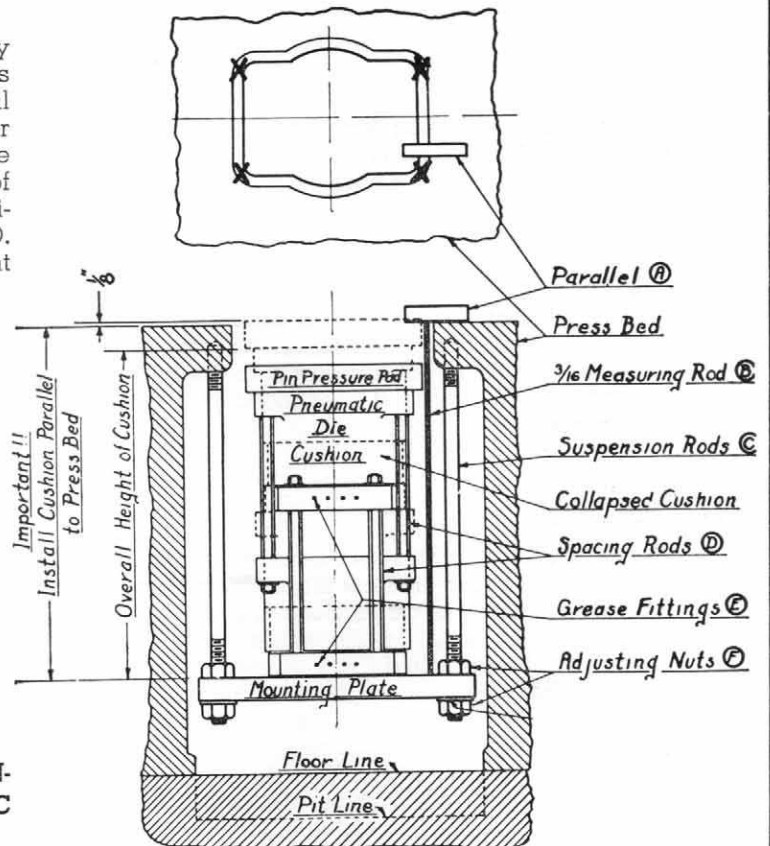

Fig. No. 45
(1) Remove bolster plate and check both surfaces carefully to make sure they are flat and parallel. **THIS IS IMPORTANT!** If surfaces are bowed or not parallel, have them machined to assure an accurate surface for the pin pressure pad of the cushion to stop against.
(2) Screw the ends of the mounting rods, "C", with the short length of thread into the drilled and tapped holes in the press bed which have been provided for mounting the die cushion. (See Fig. No. 45 & P. 2.) Make sure these rods are pulled up as far as they will go into the tapped holes. If the cushion is to be suspended from mounting bosses that are not tapped, the suspension rods are provided with nuts on both top and bottom of the bosses. Make sure the nuts are secure before proceeding with the installation.
(3) With the use of skids or timbers, slide the cushion unit into the approximate location relative to the press bed opening. (Note: If the distance between the mounting rods at the front of the press is not enough to allow the cushion to pass between them, it is advisable to leave them out until after the cushion has been placed under the press bed opening.
(4) Run on the upper adjusting nuts, "F," as far as they will go. Raise the cushion unit so that the rods pass through the holes in the mounting plate or mounting channels and run on the lower adjusting nuts, "F", to hold the cushion unit in place.